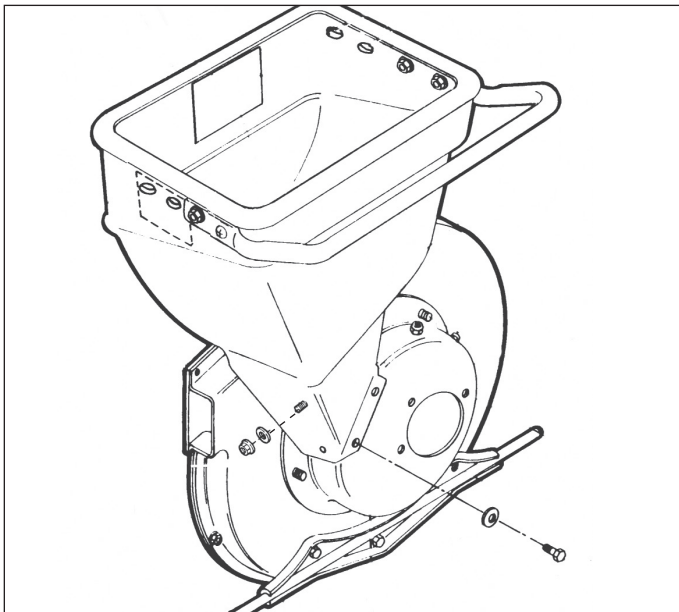

Figure 19. Attaching the Hopper
2. Secure the hopper to the rotor housing using two 5/16 x 1/2 hex head bolts, two 5/16 flat washers (Figure 19). Do not tighten hardware at this time.